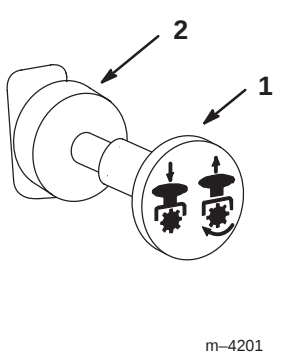

Figure 19
3. Move the PTO (power take off) to the off position (Fig. 19).